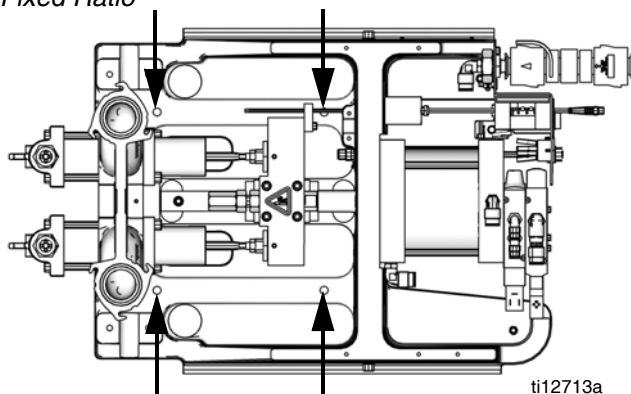

FIG. 5: Mounting Holes
4. Attach the PR70f frame to the selected location by installing fasteners (not provided with the unit) through the four mounting holes. Refer to FIG. 5 below.